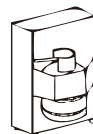

FIG 2
3. Thread the screws to secure the rear door panel attachment. (Fig 2).